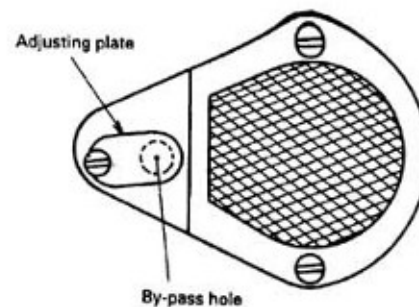

Fig.8
8. Adjustment of oil pump (图 8):